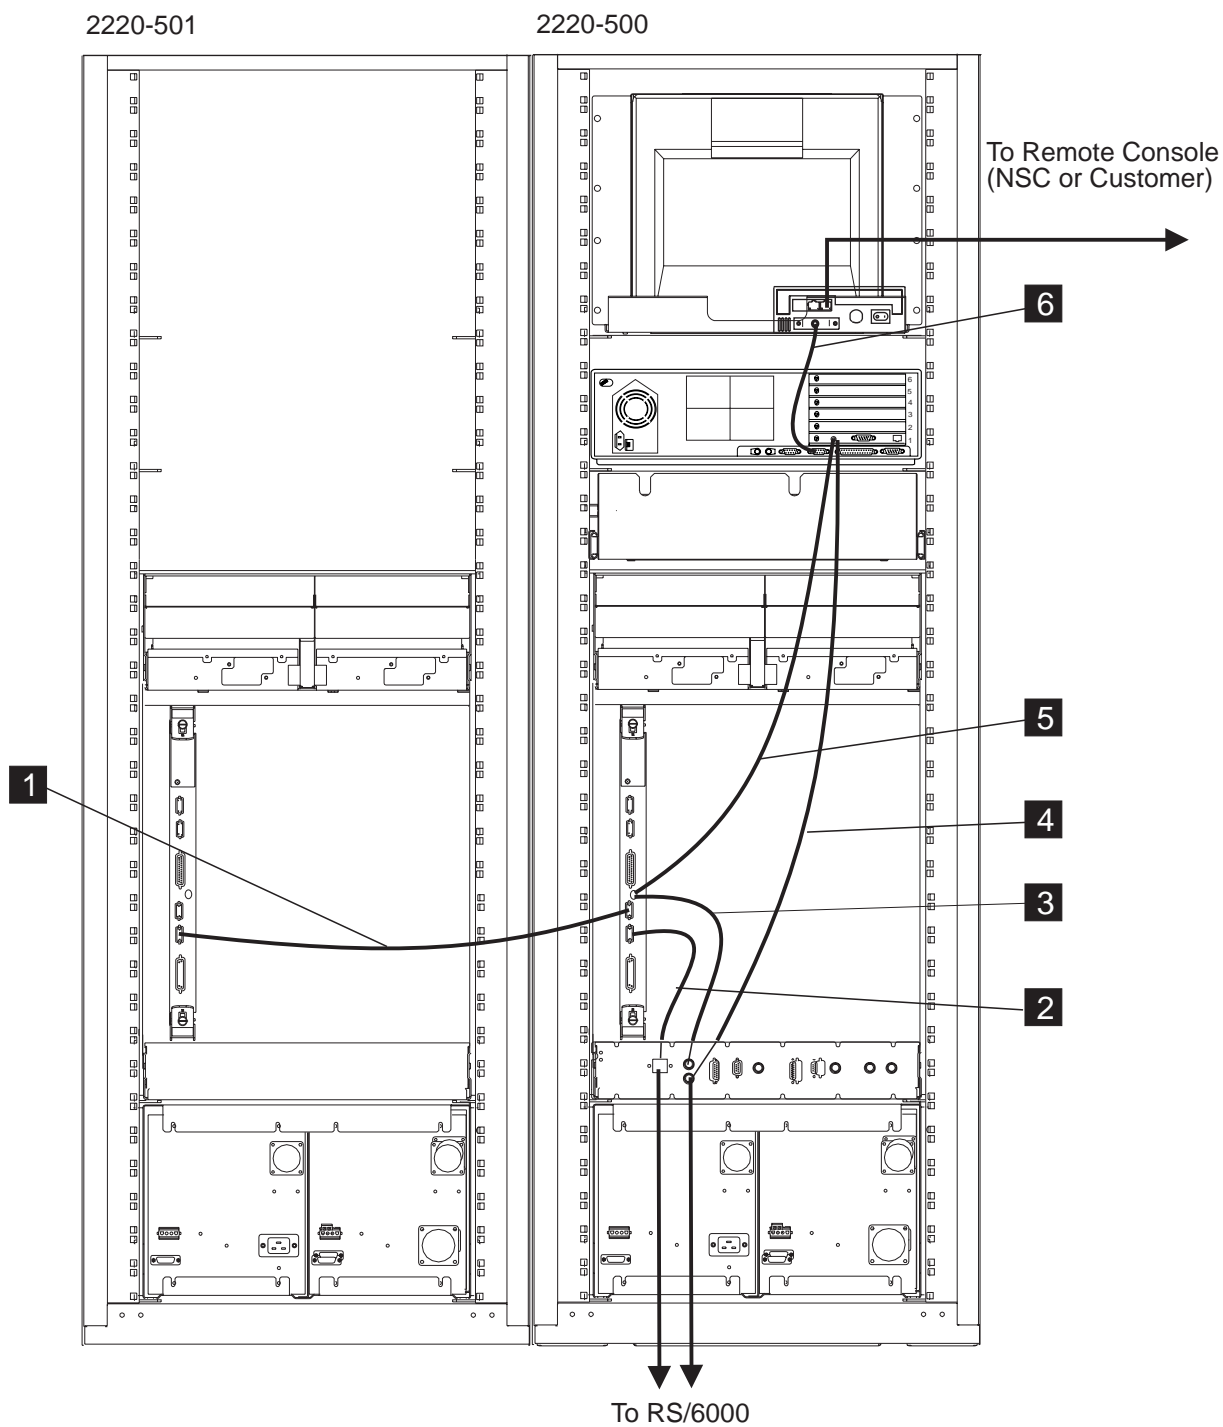

Figure 3-15. Connection of the 2220-501 to the NAS(Type 7585) and APC Type B
1. \_\_\_\_ Connect cable **1** (pn 57G8071) from connector 6 of the APC module plugged in the 2220-501 to connector 5 of the APC module plugged in the 2220-500 (see Figure 3-15 on page 3-18).